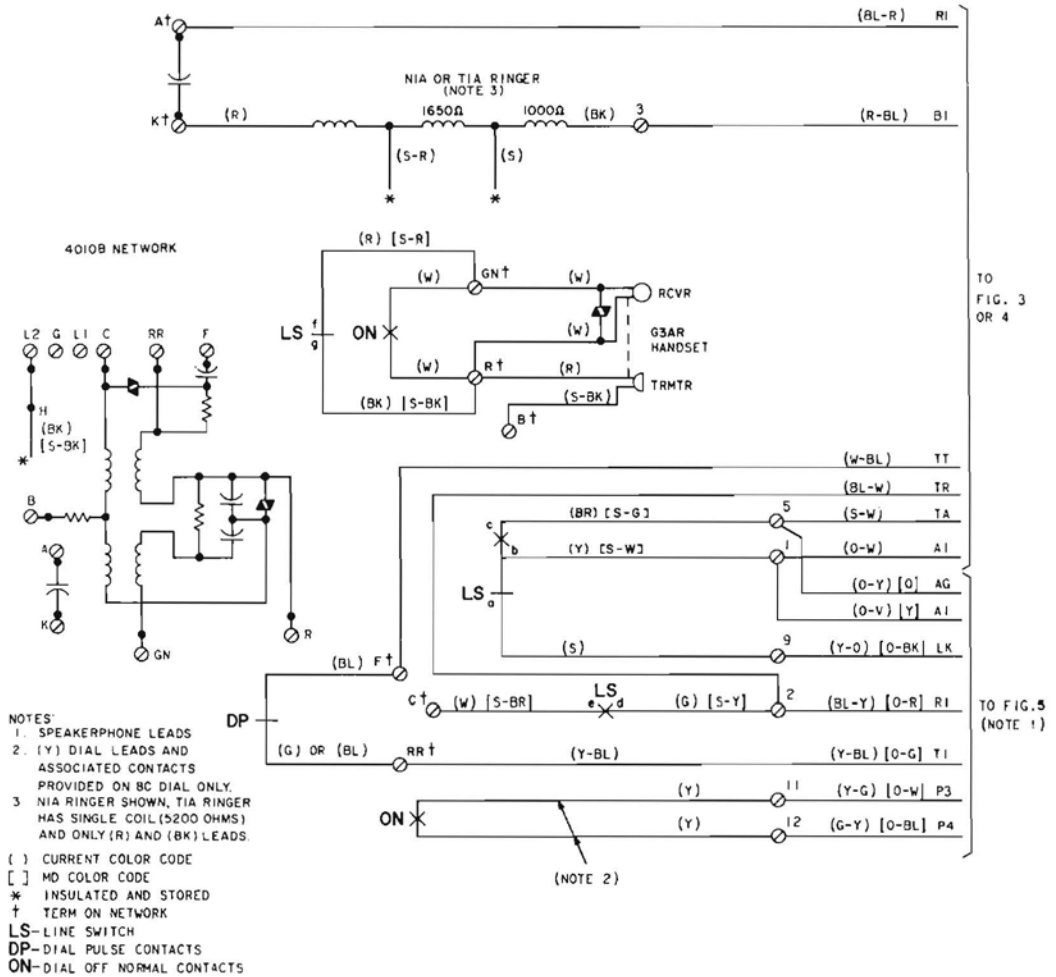

Fig. 1—Current 634- and 635-Type (MD) Telephone Set, Connections
- Add information on T1A ringer, Fig. 1 and change 241A amplifier to 241-type